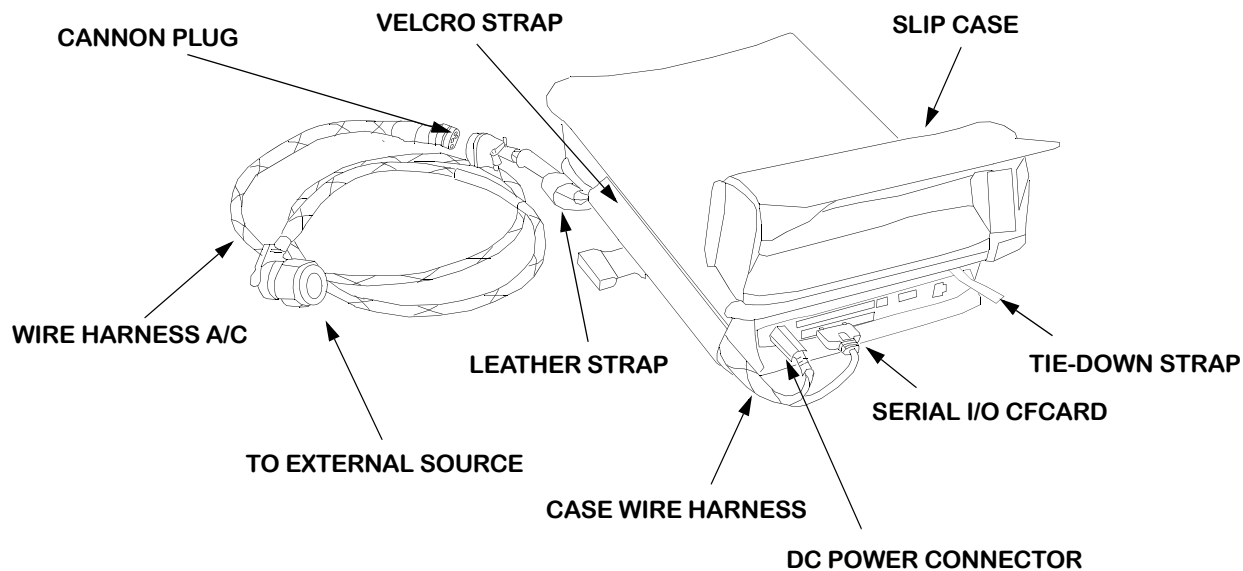
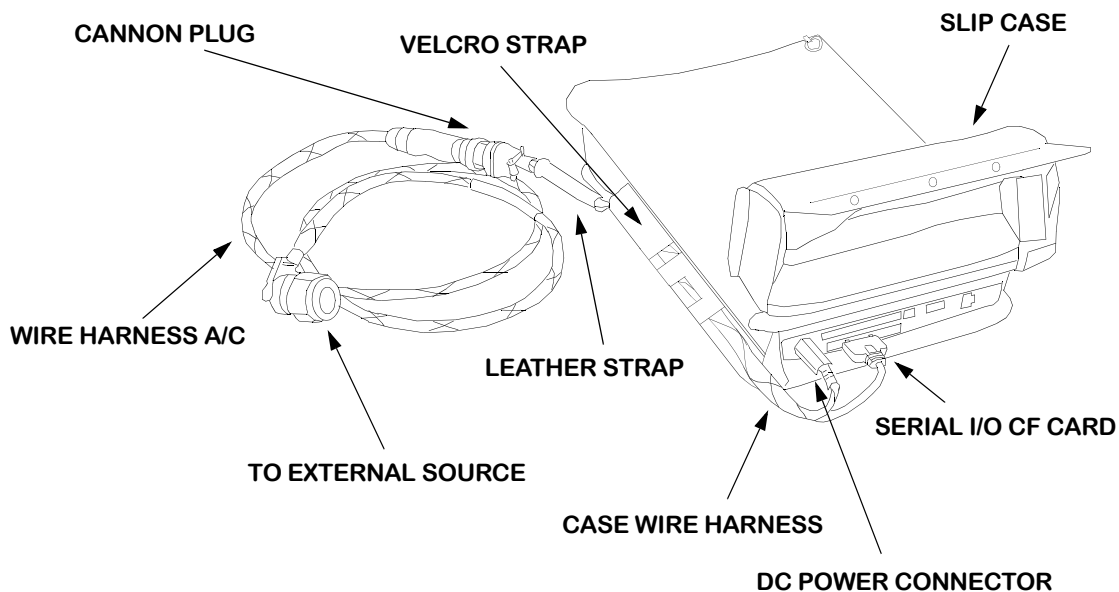

Figure 2 Pen Tablet in Slip Case Version 1
Figure 3 Pen Tablet in Slip Case Version 2
- a. Use **Figure 2** or **Figure 3** as a guide and perform system setup.
- e. If required, Insert I/O socket card into slot, see Figure 2 or Figure 3.
- f. Insert DC Power Connector into Pen Tablet, see Figure 2 or Figure 3.